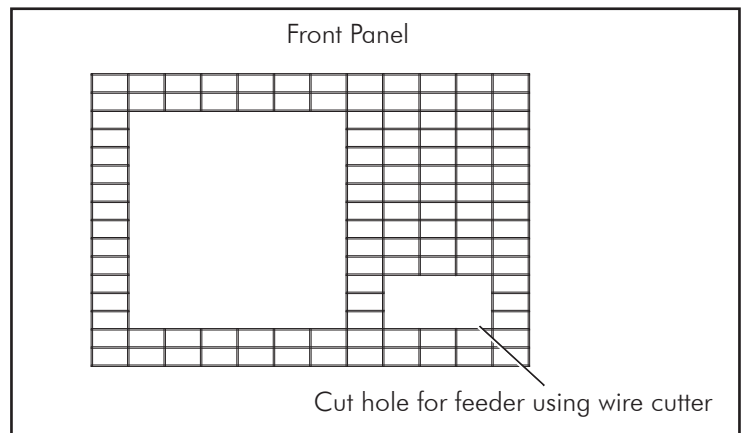

Figure 2
1. Cut out a hole in the front panel for the feeder using a wire cutter. See Figure 2.